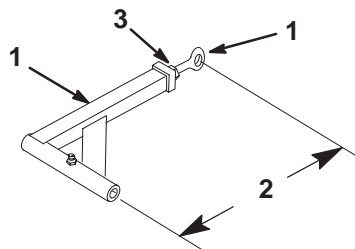

Figure 63
- To adjust push arms, loosen jam nut and rotate ball joint counterclockwise, one turn at a time. (Fig. 63).
- Adjust each side the same amount. Each push arm should have a nominal length of 15-5/16 in. (389 mm) (Fig. 63).